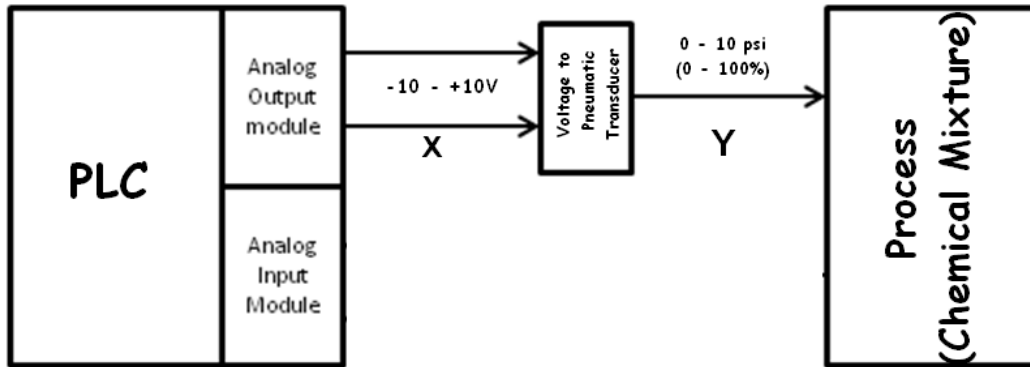

Figure 4: Data conversion of sensor and transducer
- a) Based on **Figure 4**, find the conversion equation X and Y (Draw the respective graph conversion and show all your calculation).